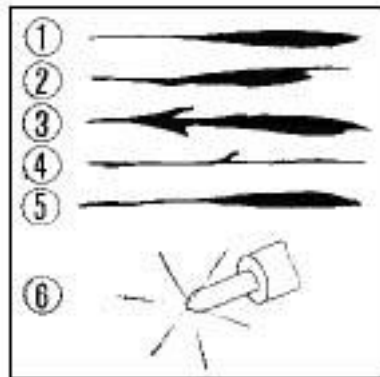

Fig. 2-44 Fuel atomization test
- 2) Check of the spray status It is advisable to use a stroboscope to check the state of the spray. Actuate repeatedly the handle of the fuel injector tester in the maximum travel at the speed of 40-80 cycles per minute, and observe the state of the fuel spray. The fuel should sprayed in fine mist, there should be no large particles in fuel mist, the mist beams sprayed from various orifices should be the same and uniform, and there should not be any fuel columns and any signs of unevenness of fuel spray density. Fuel beamss in Details 1-5 in Fig. 2-44 are all unsatisfactory. When the injection begins and terminates, there should be clear sound. After fuel injection, there should be no fuel dripping from the fuel injector head or any fuel drops suspending from the fuel injector head.
- **(5) The check of fuel injection pump.**